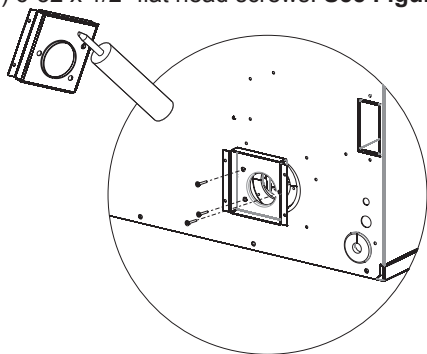

Figure 5
1. Apply silicon to back of the vent adaptor plate. Line up the vent adaptor plate with the sump assembly and secure with three (3) 6-32 x 1/2" flat head screws. **See Figure 5.**